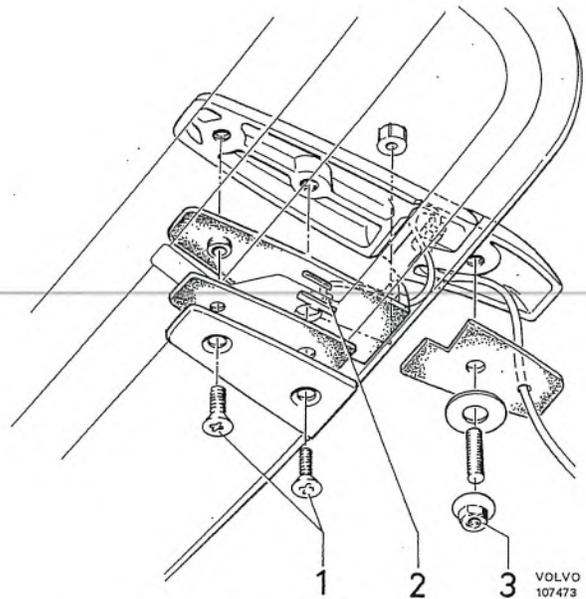

Fig. 8-31. Hinge for tailgate
To remove the glass, first take out the gas springs by removing the safety catch and then by pulling the spring straight out from the bolt. Then (with tailgate closed) release the screws (1, Fig. 8-31) and fold up the hinges. After that disconnect the cables from the window by heating the soldering point (2) with a soldering iron.